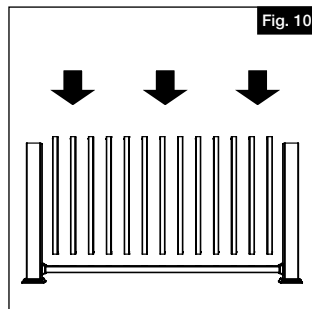

Fig. 10
- b. Push all balusters into bottom rail (Fig. 10).